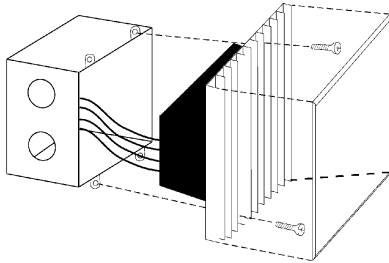

Figure 2. Mounting Diagram
Turn off power to the control unit and the feed to the ELV Interface. Mount backbox. Strip 12 mm insulation from the backbox wires: (2) 2.5 mm2 75C° copper (CU). Connect as shown in Figure 1. Mount as shown in Figure 2.